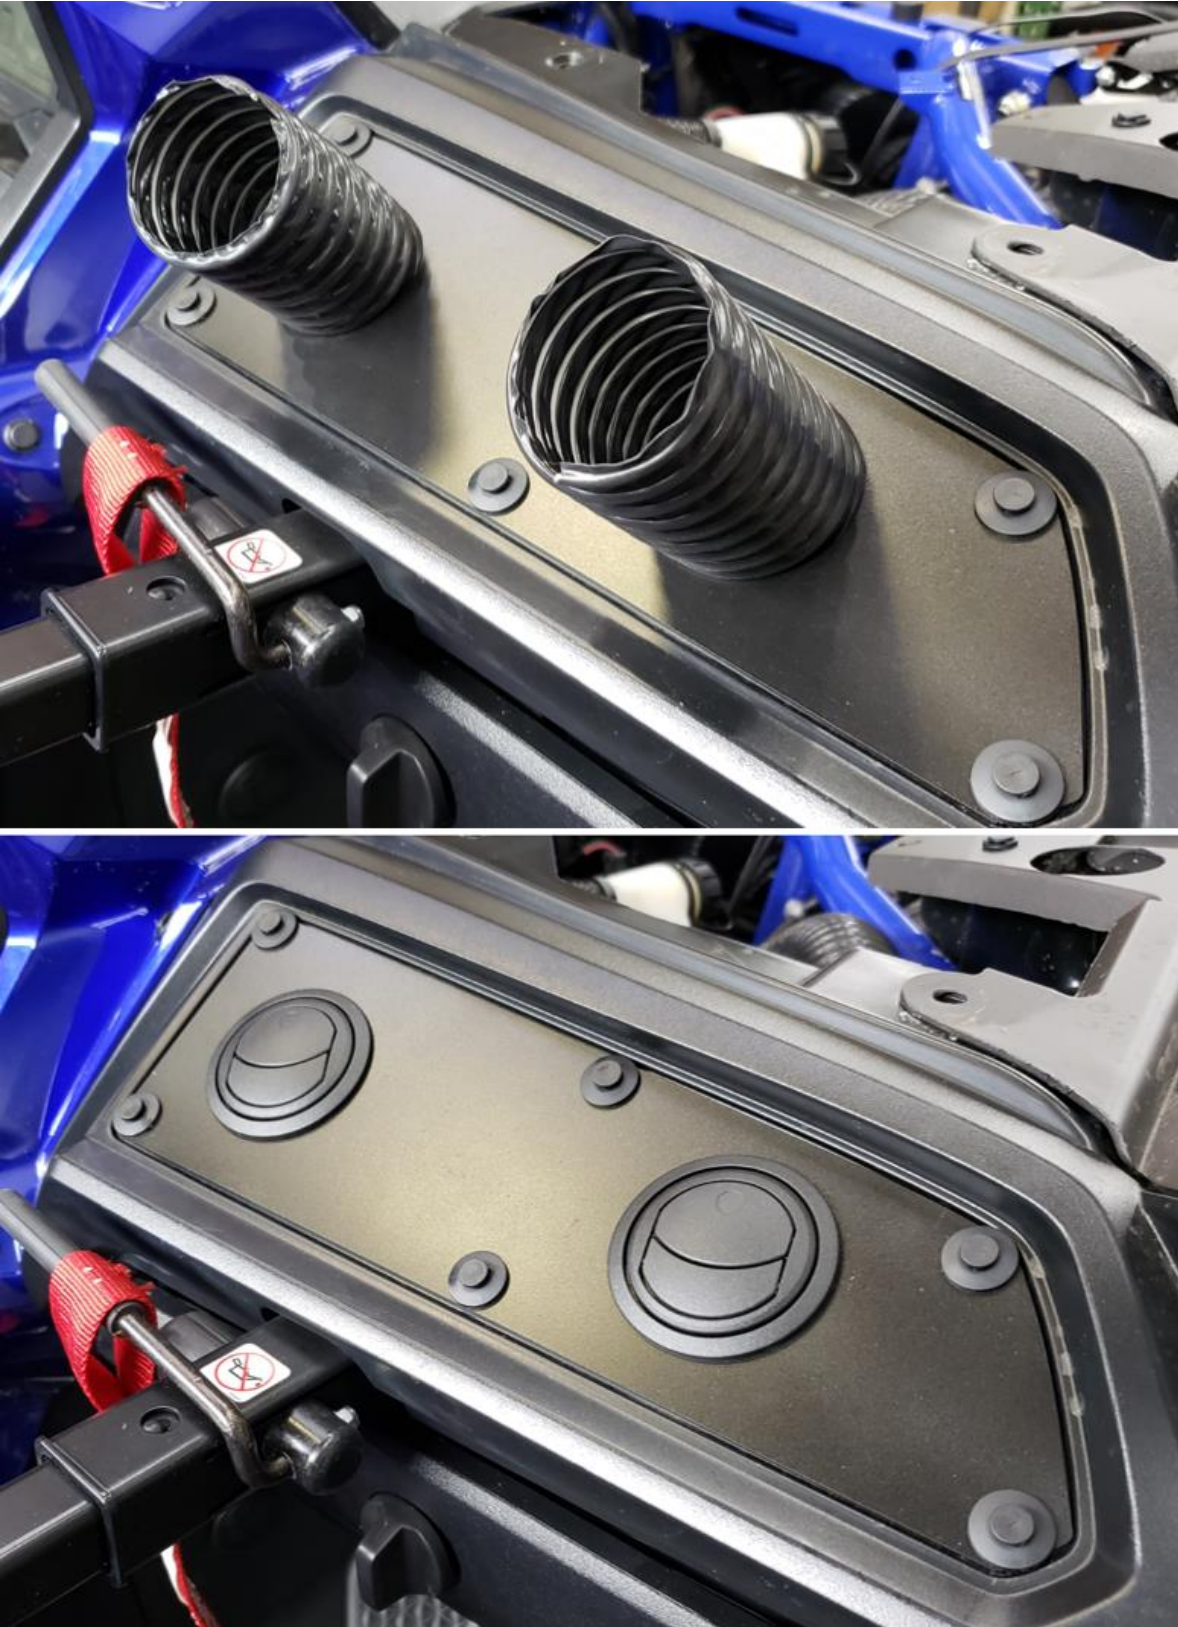

Figure 19
- r. Attach the assembled Passenger Side Defrost hose to the heater on the passenger side and route the hose to the defrost bracket. Route the two hoses through the openings in the Defrost Bracket and attach the 2" vents. Install them into the bracket as shown in Figure 19